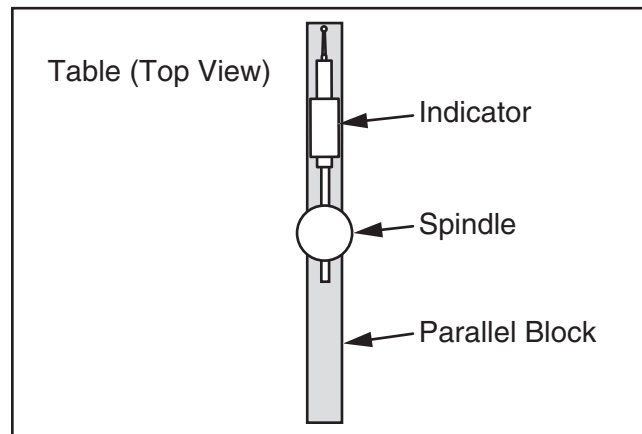

Figure 89. Parallel block and indicator positioned for the Y-axis measurement (top view).
- Place parallel block directly under spindle and across width of table, as illustrated in **Figure 89**.
- Rotate spindle so indicator point rests on parallel bar, as illustrated in **Figure 89**, then zero the dial.